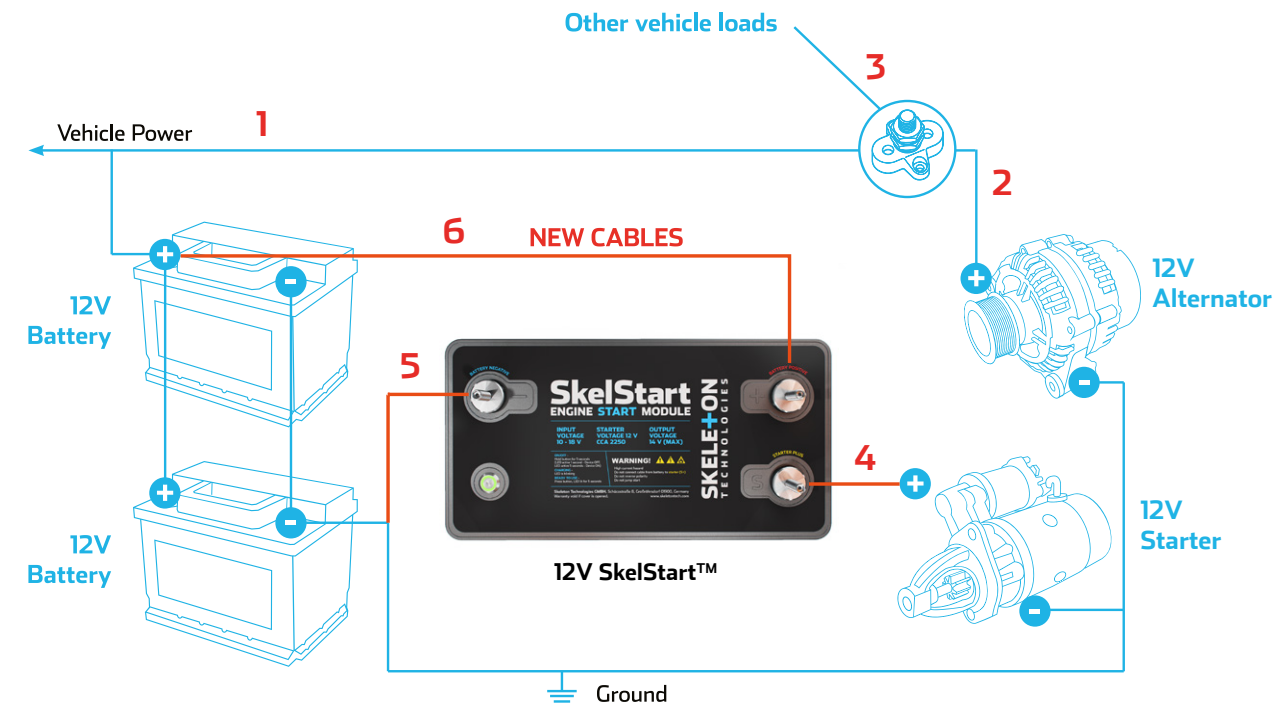

Fig 3. 12V system after SkelStart™ installation
3. The cables removed from the positive starter solenoid terminal should be connected using a terminal block or a nut-bolt connection (use spring washer or locknut). This connection will then have to be isolated from the rest of the vehicle and mounted securely. This can be achieved by bundling the cables together using cable ties and covering the connection with heat shrink (Fig 3. cables 1,2,3). Note: the connection must be fully isolated from the mass of the truck and should be secured in such a way that vibration, abrasion or corrosion cannot cause a short circuit.
4. Construct a new cable to connect the SkelStart™ S+ to the positive terminal of the Starter Solenoid (Fig. 3 cable 4). The recommended cable size - based on the length of the total cable - can be found in the above table.
5. Construct an additional new cable to connect the SkelStart™ B+ to the 12 V line on the batteries (Fig. 3 cable 6). The cable size should be at least 25 mm² for lenghts of <5 m and 35 mm² when the cable length exceeds 5 m.
6. Finally, a new cable is required for connecting the SkelStart™ B- terminal with battery "-" terminal or to the vehicle mass (Fig. 3 cable 5). This cable should be sized according to the above table.